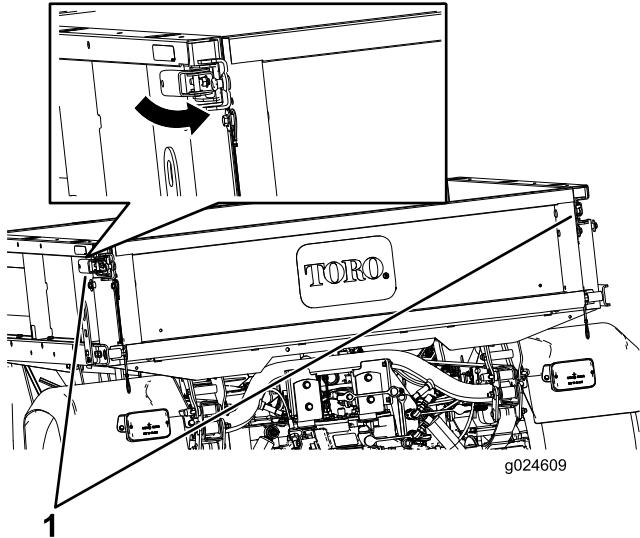

Figure 10
2. Open the latches on the left and right side of the cargo box and lower the tailgate (Figure 10).